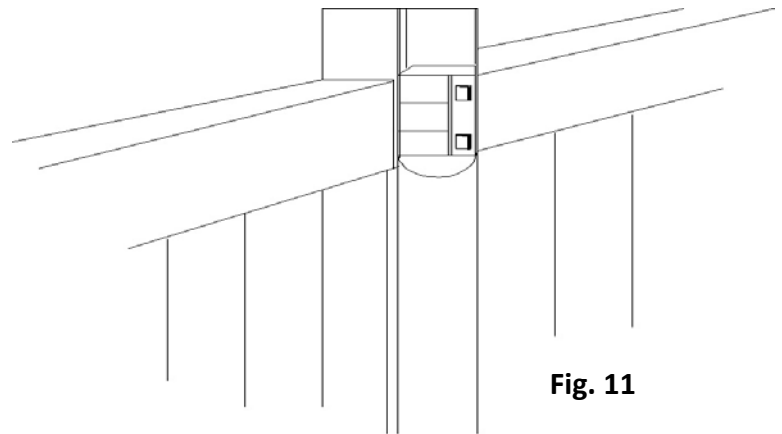

Fig. 11
**Step 5.** Once all the pickets are installed, slide the loose rail end into the post (Fig. 11). The notched end will lock into the post. Repeat these steps until all panels have been assembled.